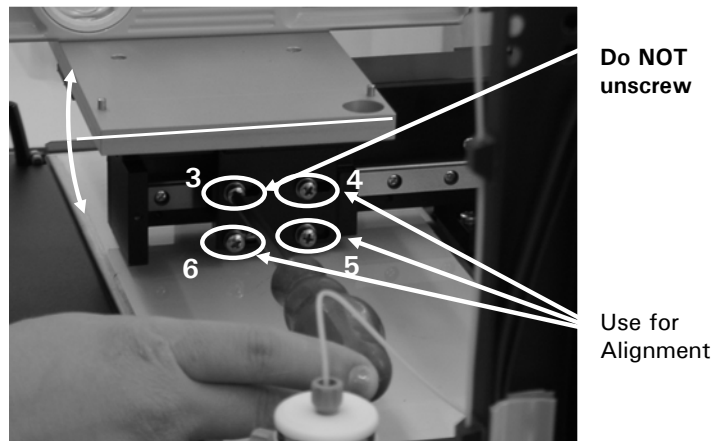

FIGURE C-15 Aligning the Y-direction
- b) Slightly unscrew the screws labeled '4' – '6' in FIGURE C-15, but do not loosen screw 3.
Note: Do not loosen screw labeled '3' in FIGURE C-15 when you are removing screws 4 – 6. Loosening all screws at the same time may lead to a misalignment of the limiter switches of the Y-axis.